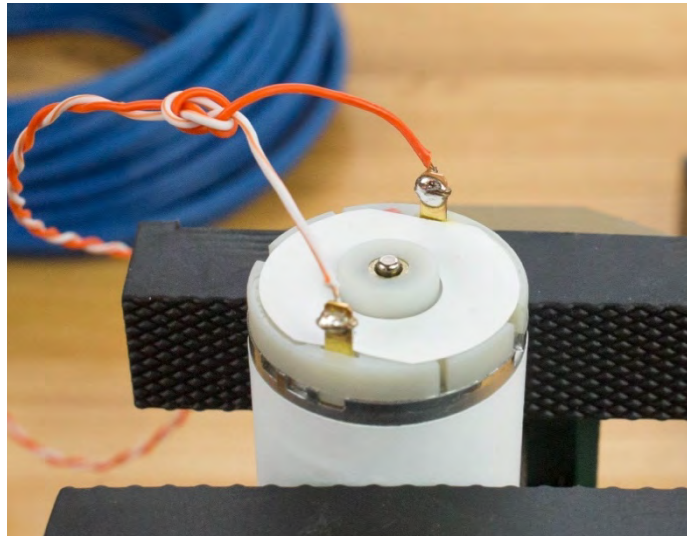

Figure 21
- Remove the solder and then remove the soldering iron tip from the solder joint. Avoid touching or disturbing the connection for a few seconds until it cools and hardens to ensure a good electrical connection. (Figure 21)